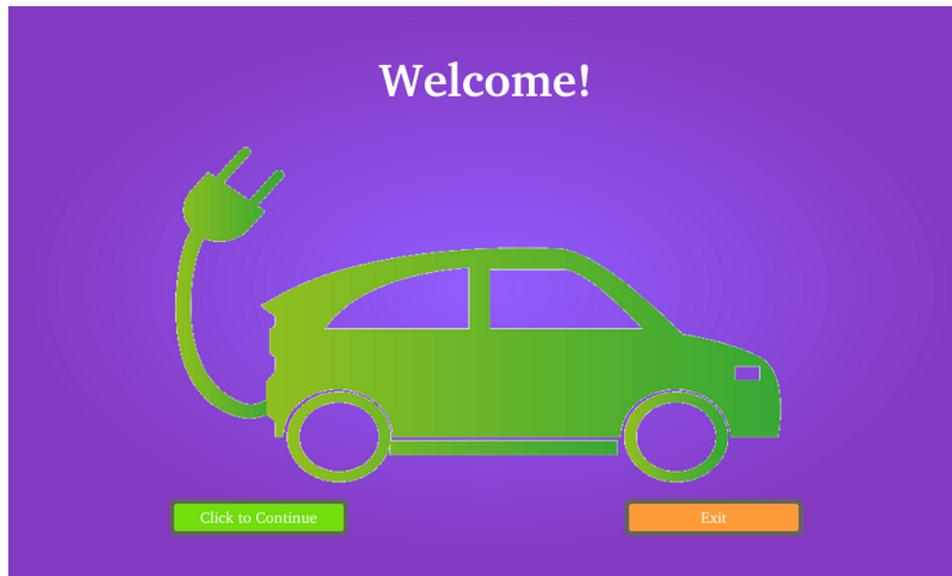
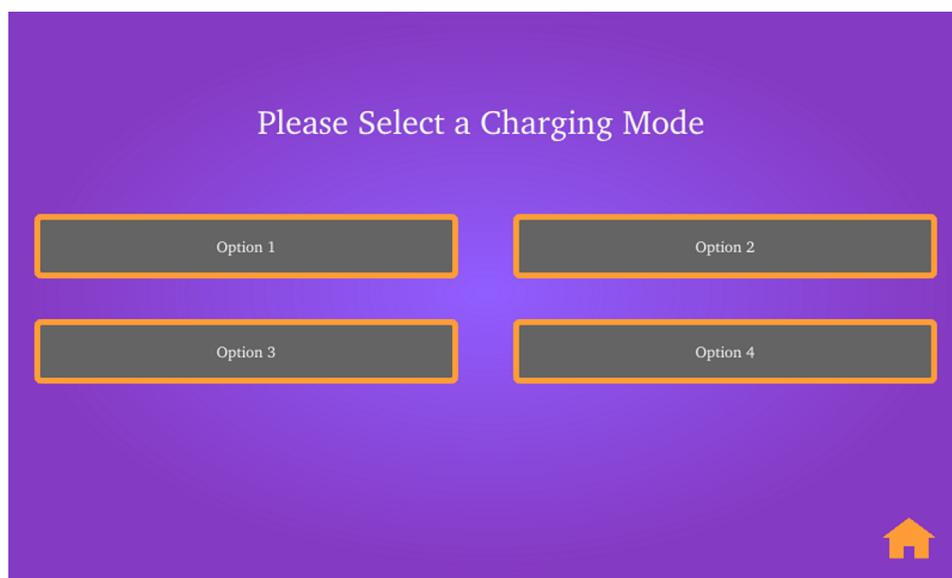

Figure 9. EVSE HMI Demonstration GUI—Welcome Screen (Page One)
Figure 10. EVSE HMI Demonstration GUI—Charging Mode Screen (Page Two)
4. The EVSE HMI demonstration GUI launches and the *Welcome* screen shows (see Figure 9).
5. The *Click to Continue* button in Figure 9 leads to the charging mode screen shown in Figure 10.
- The home icon in the bottom-right corner directs the user back to the *Welcome* screen in Figure 9.
- The home icon in the bottom-right corner leads to the *Welcome* screen in Figure 9.
- The *End Charge* button directs the user back to the *Welcome* screen in Figure 9.